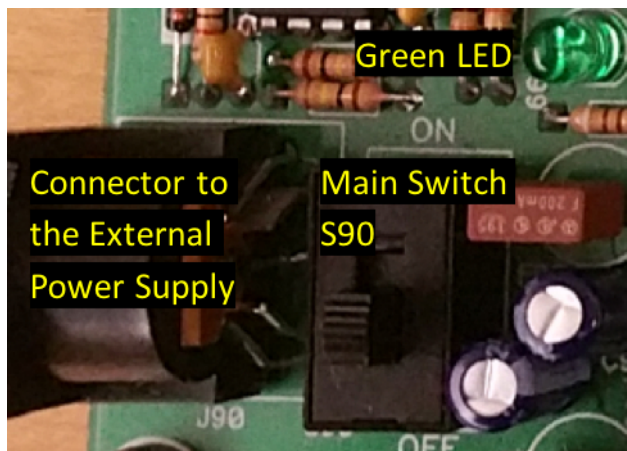

Figure 9. External Power Supply Connector, Main Switch, and LED Indicator
4. Check the locations of "S90" and the green LED in Fig. 9.